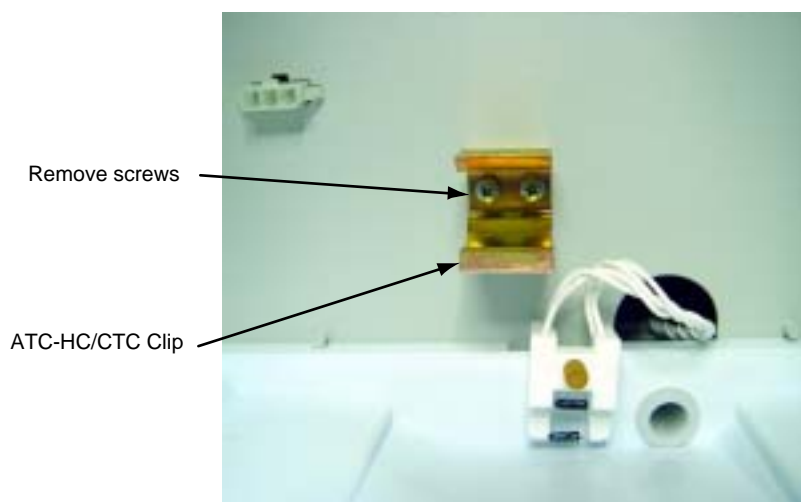

Figure 20
1. Remove the two screws holding the ATC column clip. See Figure 20.